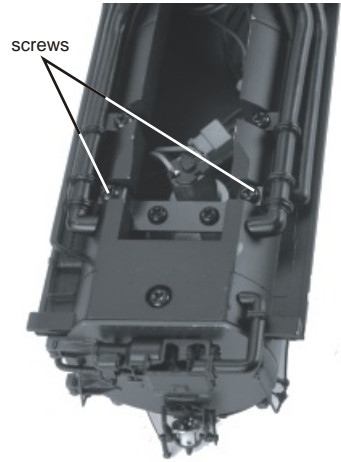

Figure 14
1. Unplug the two wiring harnesses from the board mounted to the inside of the boiler and behind the smoke unit. 2. Remove the two screws securing the smoke unit inside the shell as seen in Fig. 14.
3. With the board free of the mounting screws, slide the assembly out of the boiler as seen in Fig. 14.